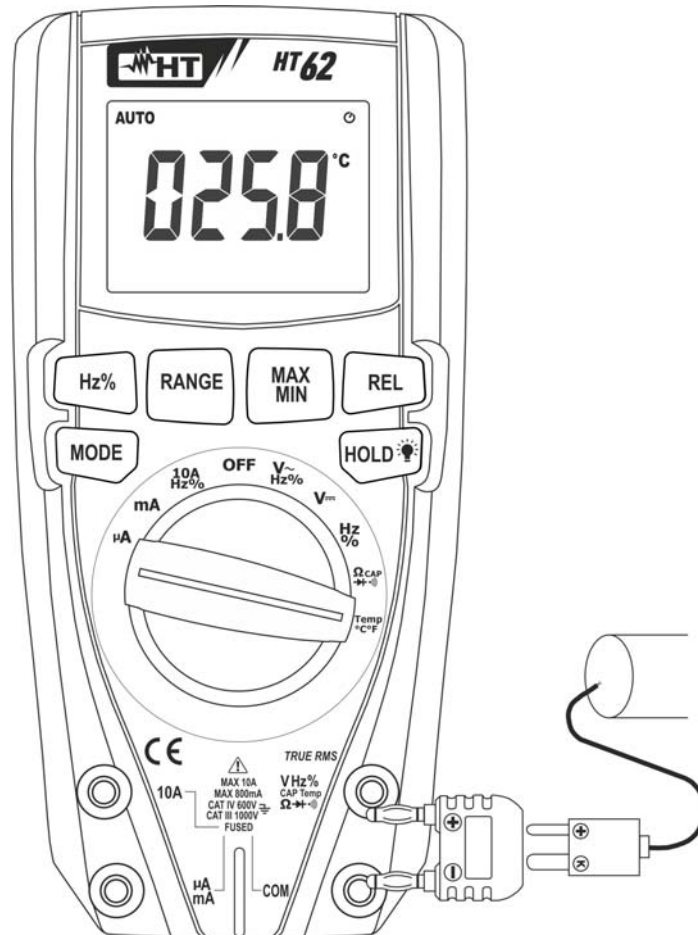

Fig. 8: Use of the instrument for Temperature measurement
3. Insert the provided adapter into input terminals **VHz%CAPTempΩ** (polarity +) and **COM** (polarity -) (see Fig. 8)